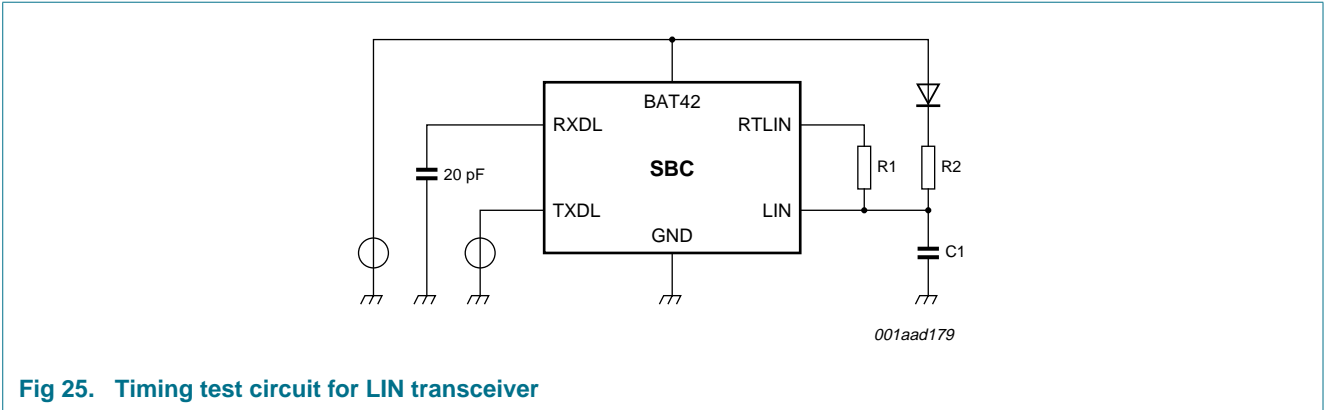
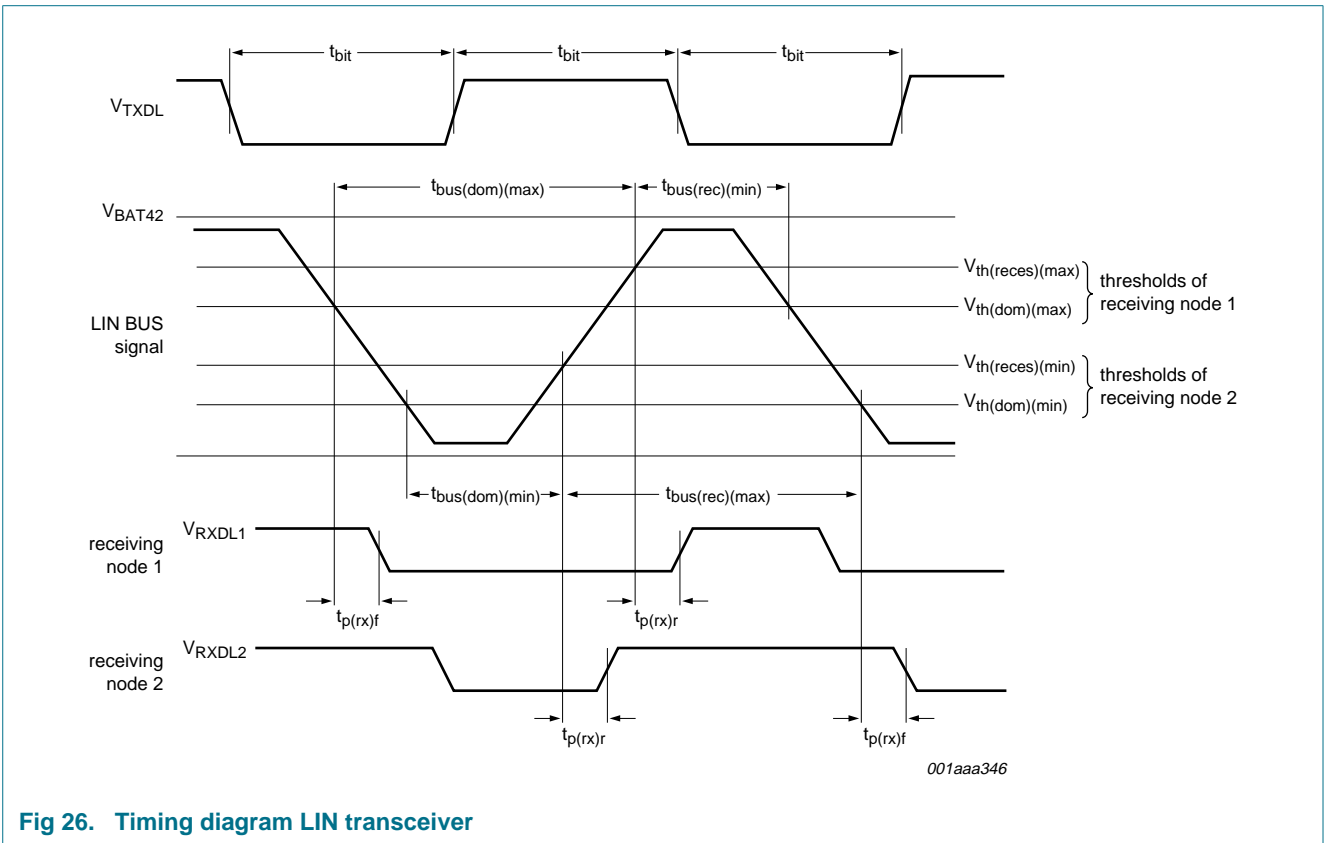

Fig 25. Timing test circuit for LIN transceiver
Fig 26. Timing diagram LIN transceiver
- [3] t_{bit} = selected bit time, depends on LSC bit; 50 μs or 96 μs (20 kbit/s or 10.4 kbit/s respectively); bus load conditions ($R_1/R_2/C_1$): 1 k Ω /1 k Ω /10 nF; 1 k Ω /2 k Ω /6.8 nF; 1 k Ω /open/1 nF; see Figure 25 and Figure 26.